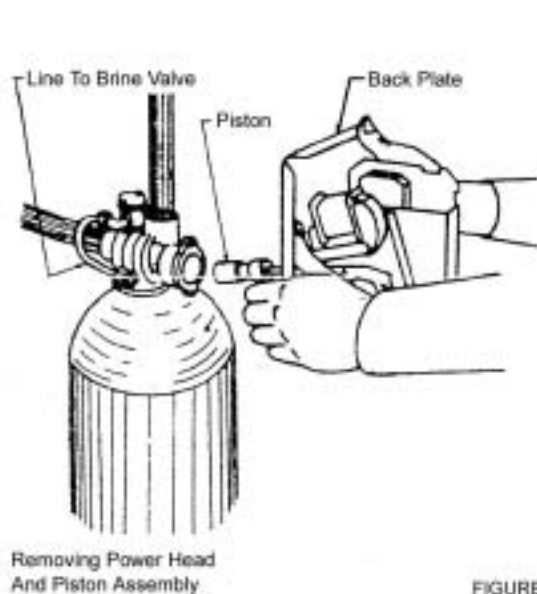

FIGURE 1
5. Grasp the back plate on both sides and slowly pull end plug and piston assembly out of the valve body, (see Fig. 1) and lay aside.
19. Hold the back plate with one hand and guide the piston into the valve body with the other hand, then grasp the back plate on both sides and slowly push the piston assembly and end plug assembly into the valve. (See Fig. 1.)